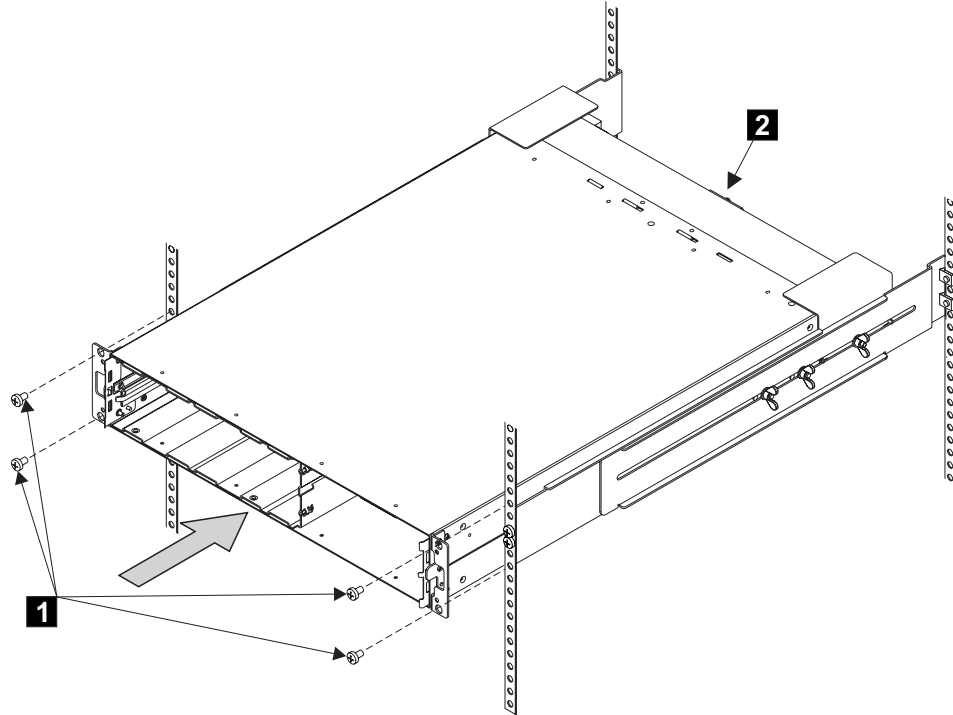

Figure 19. Installing the uninterruptible power supply 5125 into a rack
6. Install the front flathead screws **1**. See Figure 19 on page 45.